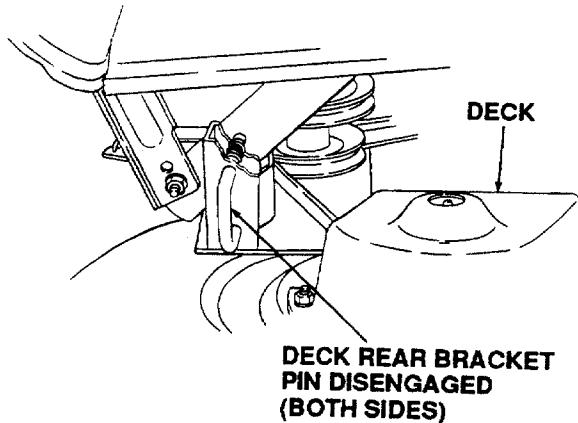

Figure 40
- Pull the deck rear bracket pins outward, turn downward and release so both spring-loaded pins are held against the outside surface of the brackets in their disengaged positions. (Refer to Figure 40.)